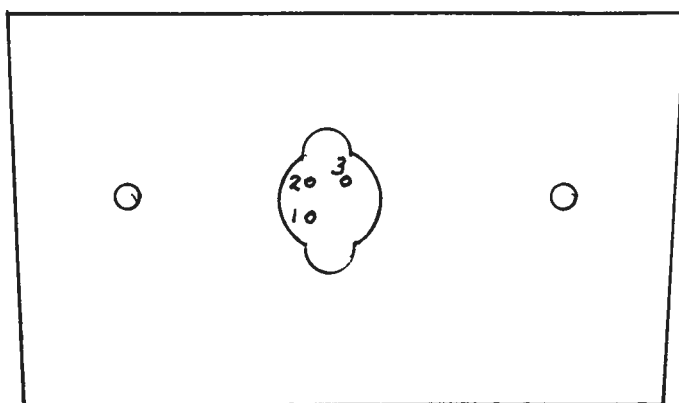

Fig. 2 DIODE SOCKET PIN CONNECTIONS
- 4) The connectorized detector diode may be removed by removing the 2 Phillips 2-56 screws which affix the diode assembly to the 2 x 5 cm aluminum mounting plate in the side of the amplifier. The diode may then be removed from the socket by gently pulling the diode package away from the amplifier chassis. The aluminum mounting plate may be removed by loosening the 8-32 nuts (4) then removing the 8-32 machine screws (2). Other PIN detector diodes may be inserted into the socket. The pin connections are as shown in Fig. 2.